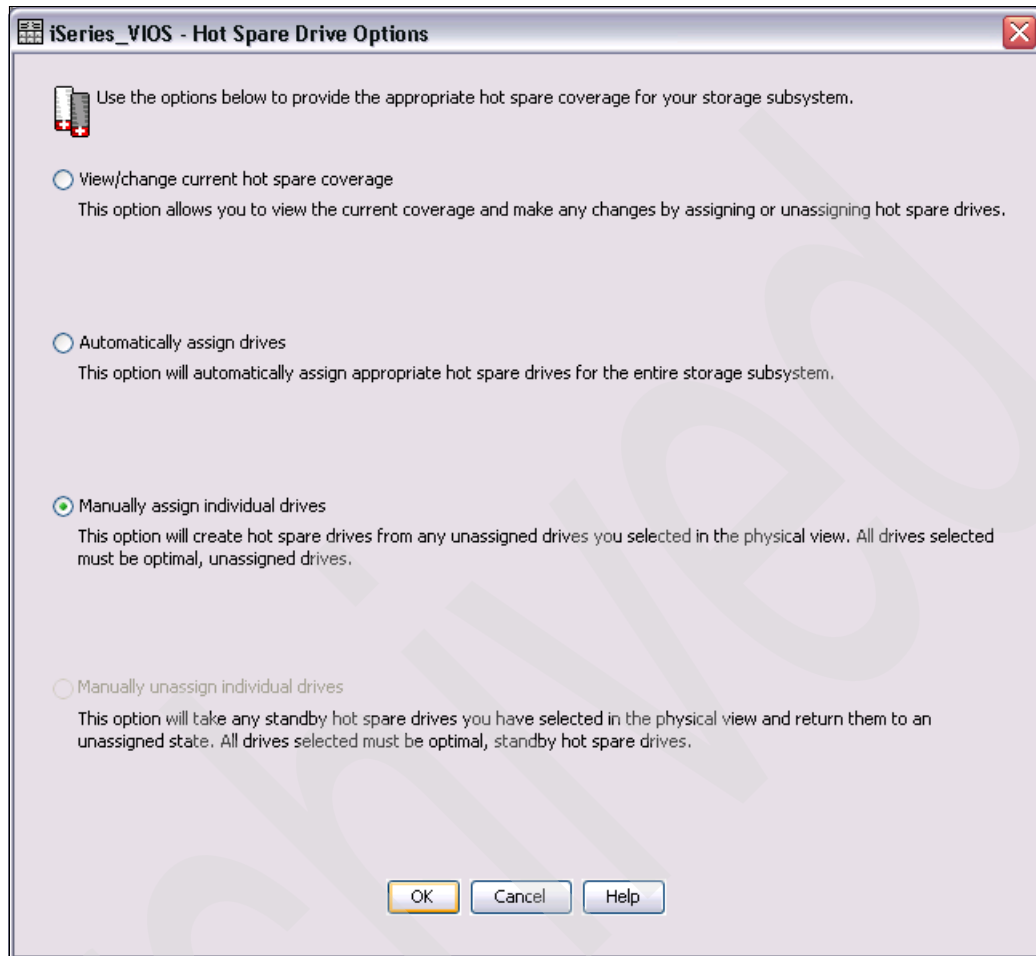

Figure 7-47 DS Storage Manager Hot Spare Drive Options
4. We accept the default option **Manually assign individual drives** and select **OK**, as shown in Figure 7-47.